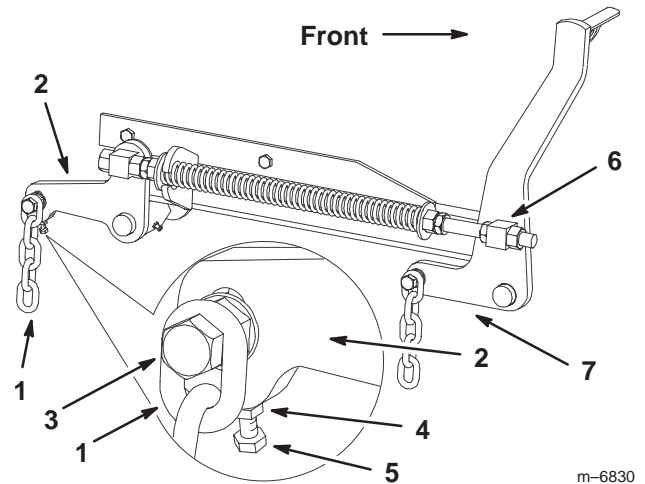

Figure 70
7. If the measurements at positions **B** or **C** are not correct, loosen the bolt attaching the rear chain to the rear support arm (Fig. 70).